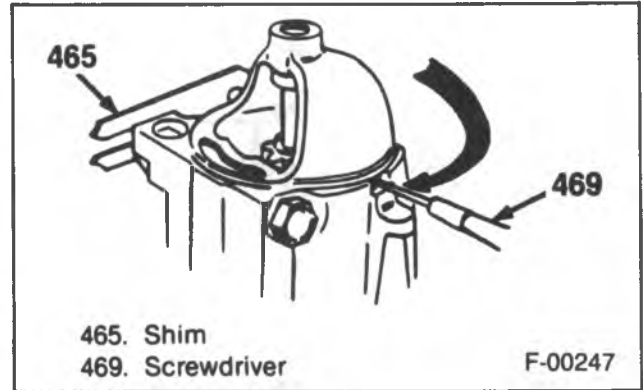
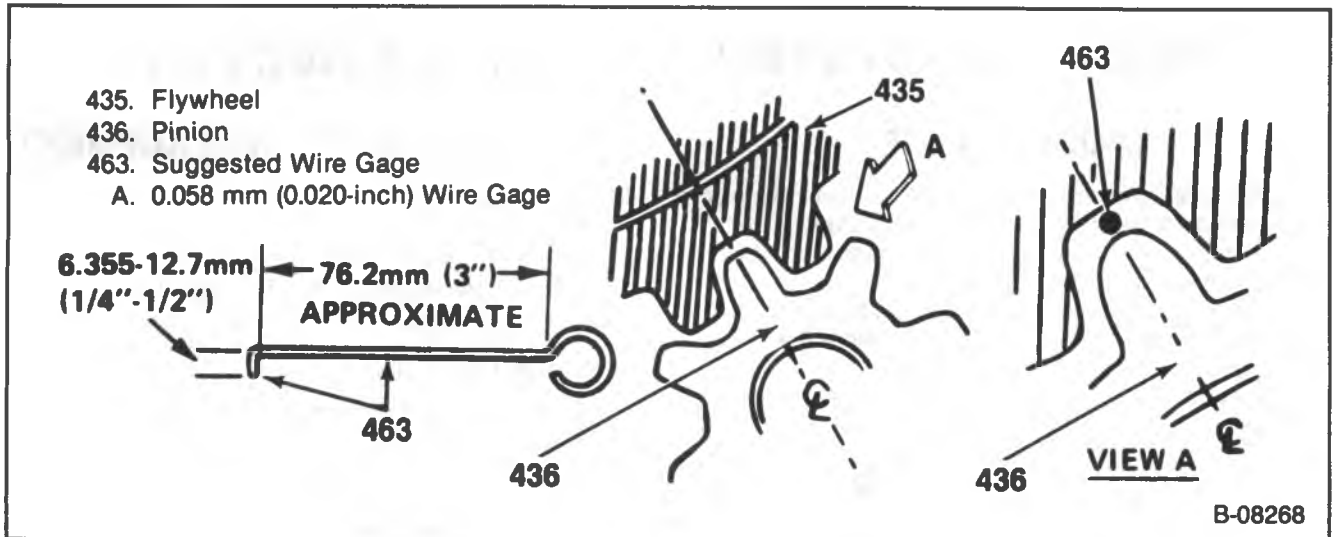

Figure 33 — Meshing Starter and Flywheel Teeth
Figure 34 — Flywheel to Pinion Clearance
5. Insert a screwdriver in the small hole in the bottom of the starter (shown by the arrow in figure 33) and move the starter pinion and clutch assembly so that the pinion teeth and flywheel teeth are meshed. If necessary, rotate the flywheel so that a pinion tooth is directly in the center of two flywheel teeth and on the centerline of the two gears (figure 34).
6. Measure the clearance between the top of the pinion tooth and the bottom of the flywheel tooth using the width of the wire gage (figure 34). Normal clearance is 0.5 to 1.5 mm (0.02 to 0.06-inch).
1. Gas engine starter motor mounting bolts to 38 N•m (28 ft. lbs.) (figure 34).